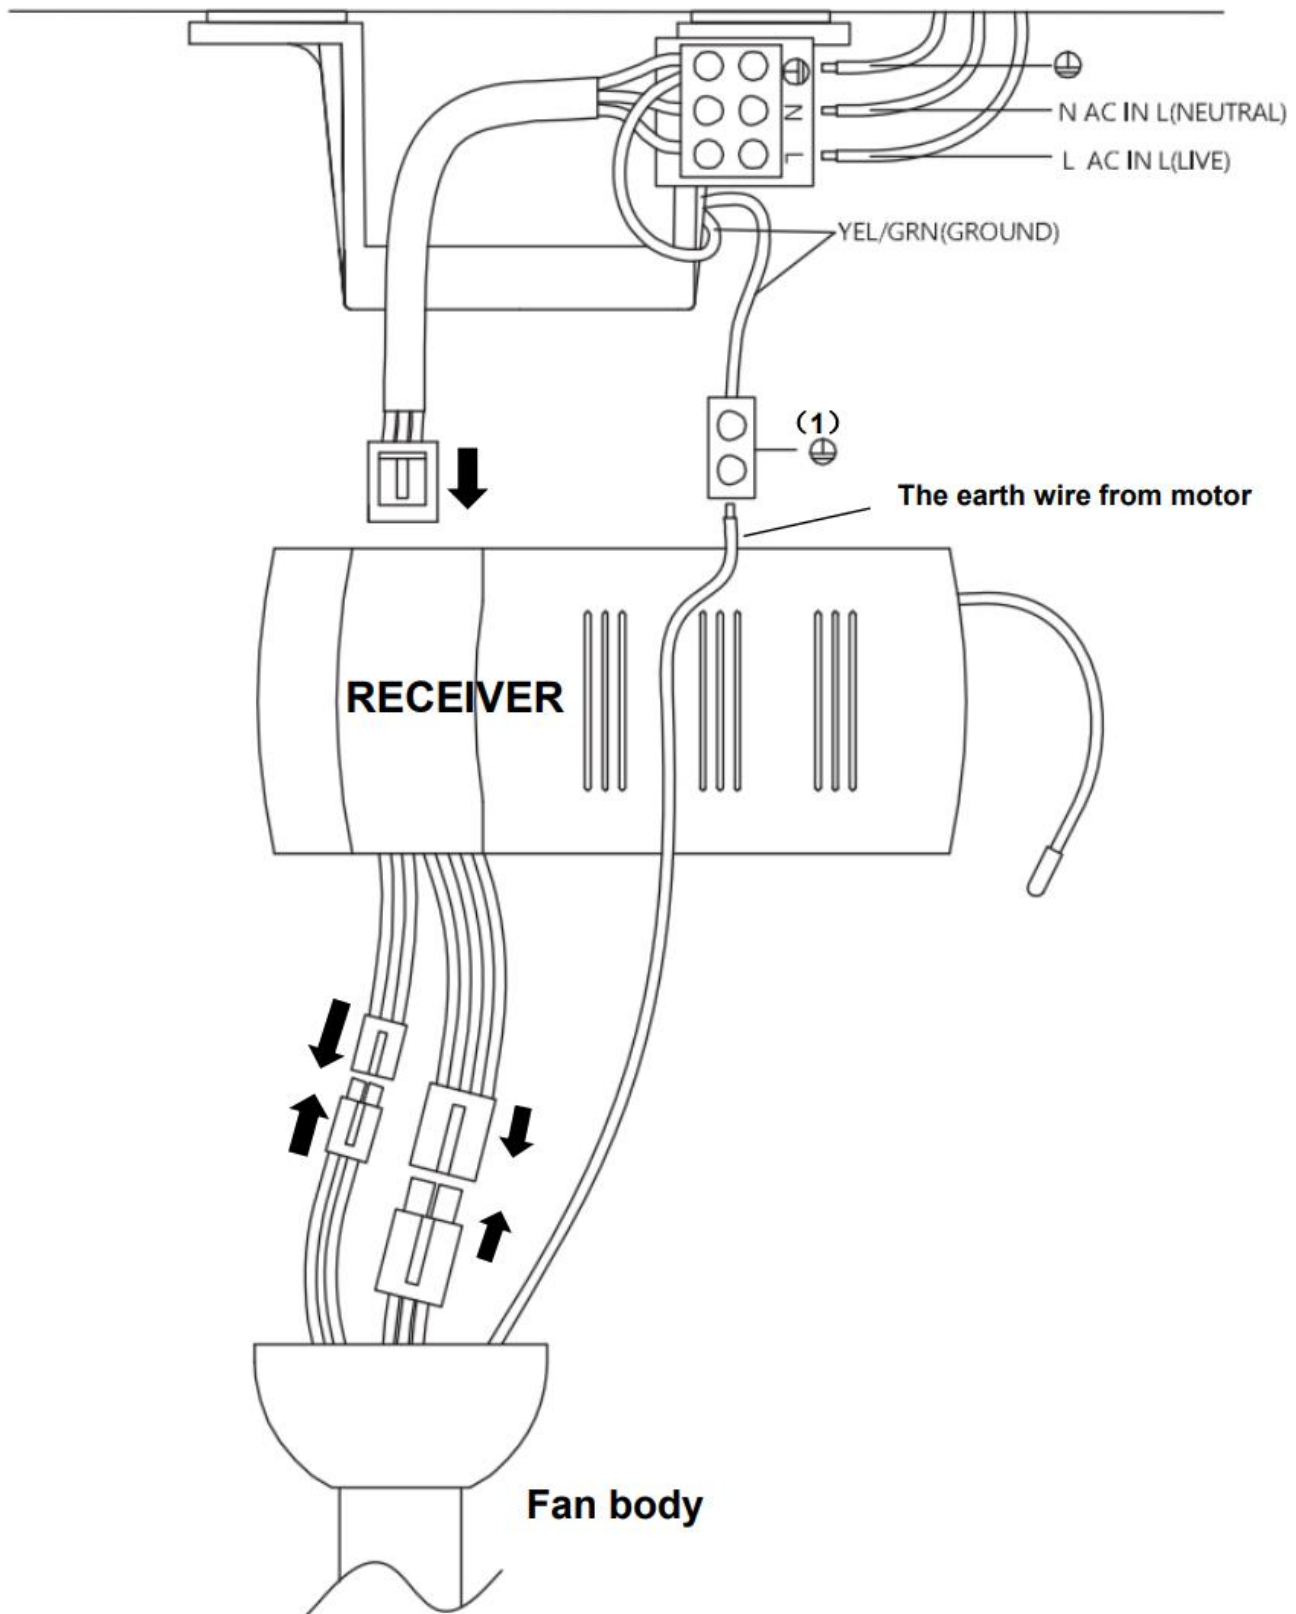

Fig. 9a
- If the fan is with light, Connect the light output wire of the DC motor driver to the input wire of the light kit via 2-port quick connectors (Fig.9a)